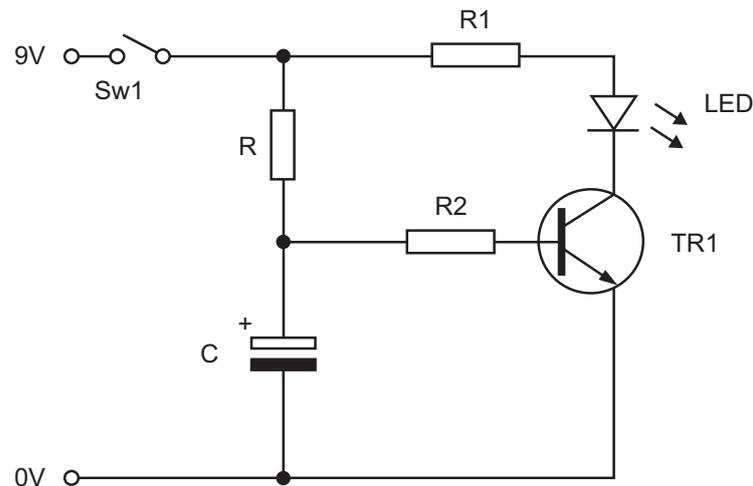

Fig. 10(b)
- (i) Explain the operation of the circuit shown in **Fig. 10(b)** after the switch Sw1 is closed. [4]
- (ii) Choose a suitable power rating for the resistor R1 in **Fig. 10(b)** if the current flowing in the LED is 12 mA and the LED forward voltage is 1.8 V. (Assume that resistors with the following power ratings are available; 0.125 W, 0.250 W, 0.5 W and 1 W.) [3]